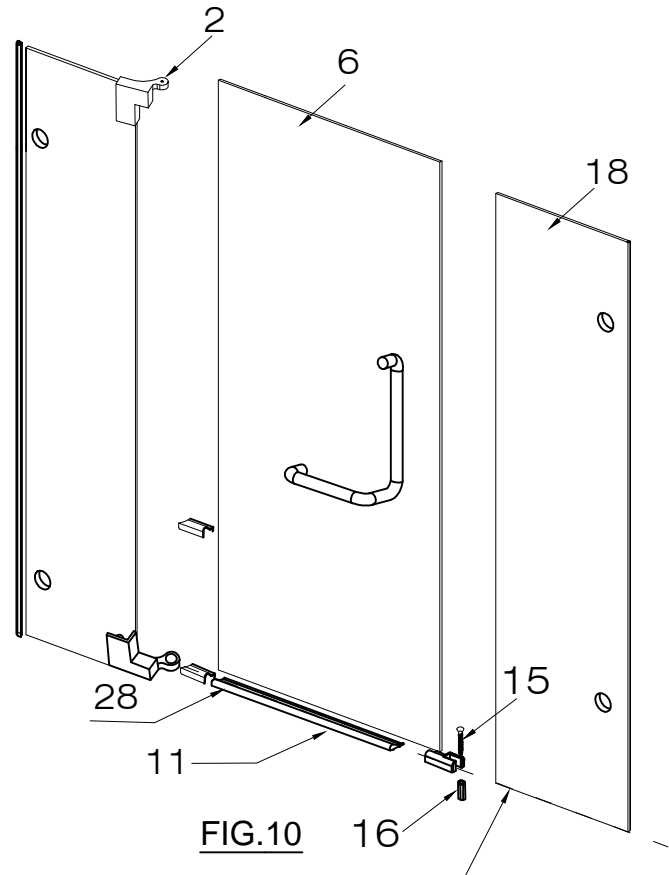

FIG.10
3. Slide the right end of the door threshold (#11) into the right threshold clip that has been screwed to the floor. Place the left threshold end cup (#28) on the left end of the door threshold. Then carefully align the door threshold and threshold end cup under the door panel. The threshold end cup should be placed against the turning point of the hinge base mirrored. Make sure the door threshold is in alignment with the side panel. [SEE FIG.10 AND 10A].